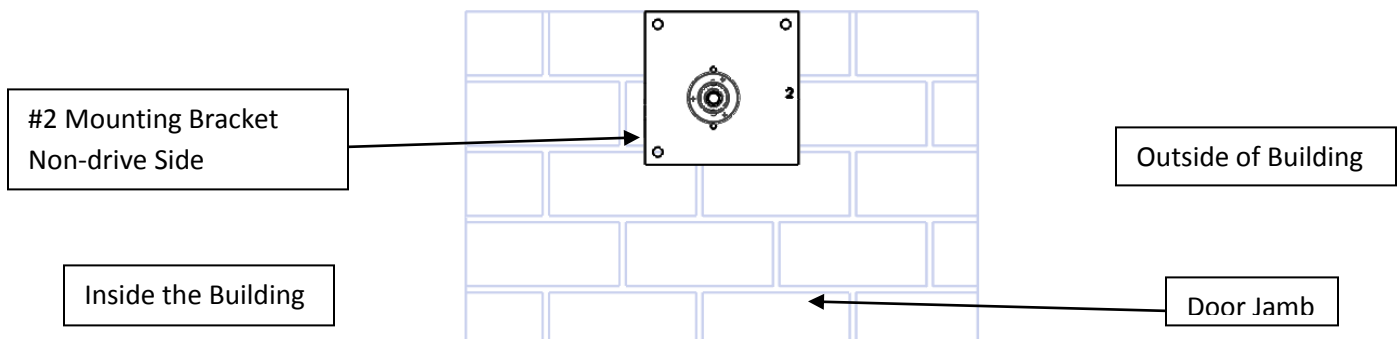

Figure 2
4. Locate and mount the non-drive side mounting bracket punched #2 at the top of the jamb centered as shown in (figure 2). The same hardware used for the drive side mounting bracket can be used.